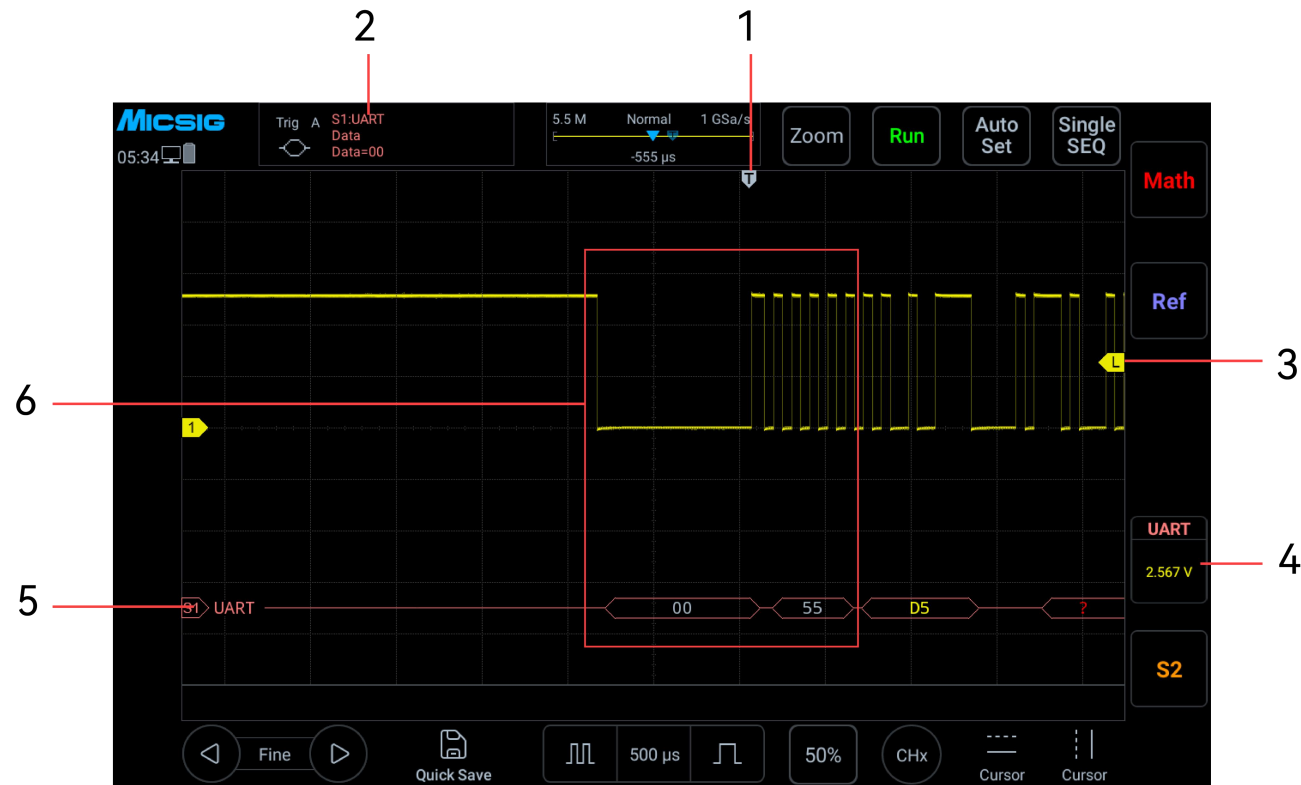

Figure 13-8 UART Graphic Interface
- (1) Tap S1 to open the decode channel, and click S1 again to open the bus configuration menu;
- (2) Select the bus type as “UART”, click “Ch1”, “Idle High”, “Parity None”, “8bit”, “19.20kb/s”, display “hexadecimal”, then close menu;
- (3) Open the trigger mode settings menu, select "Data", set the condition to "=", manually enter the data content as 98, and press the "enter" key to confirm.
- (4) Adjusting the threshold level according to the amplitude level of signal may make the signal to be stably triggered. The UART trigger graphic interface is shown in Figure 13-8: